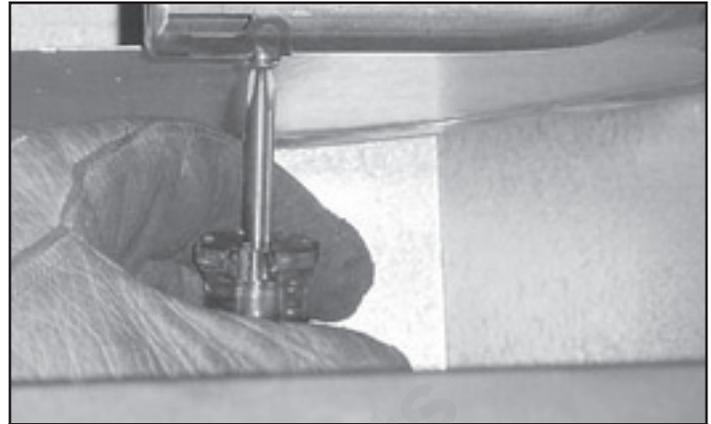
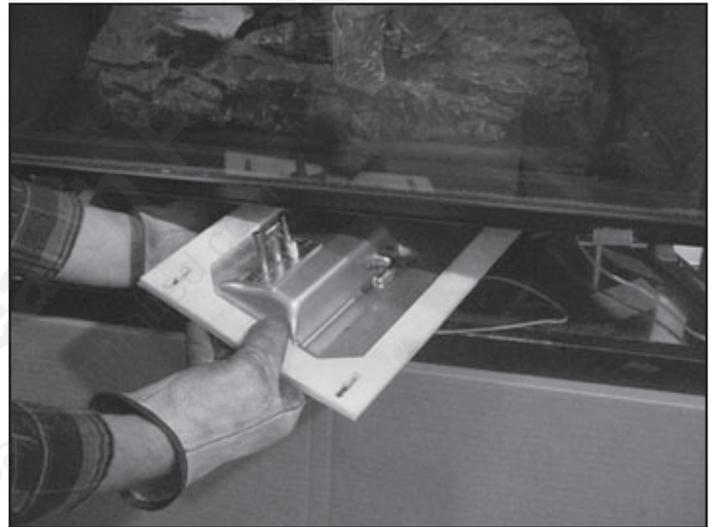

Figure 12.4 Air Shutter
Figure 12.5 Removing Valve Assembly
This appliance has an adjustable air shutter (which controls the primary air) factory set for the minimum vertical vent run (see Figure 12.4). If your installation has more than the minimum required vertical vent length, adjustment of the air shutter may be necessary to obtain optimal flame appearance. **This should be adjusted by a qualified installer at the time of installation.**
- To reduce the possibility of soot, we have provided your appliance with an adjustable air shutter. See Figure 12.4. Your air shutter is provided at 1/8 in. open for natural gas, 3/8 in. open for propane (30 in./33 in. appliances), and full open for 36 in. and 42 in. propane appliances. In the event soot is accumulating in your appliance, the air shutter should be opened farther. This can be done by opening the control access panel and locating the two wing studs and two wing nuts attaching the valve assembly to the firebox. Remove the wing nuts and wing studs, slide the valve assembly to the left and lower. Rotate the valve assembly horizontally and remove from underneath the appliance. See Figure 12.5.